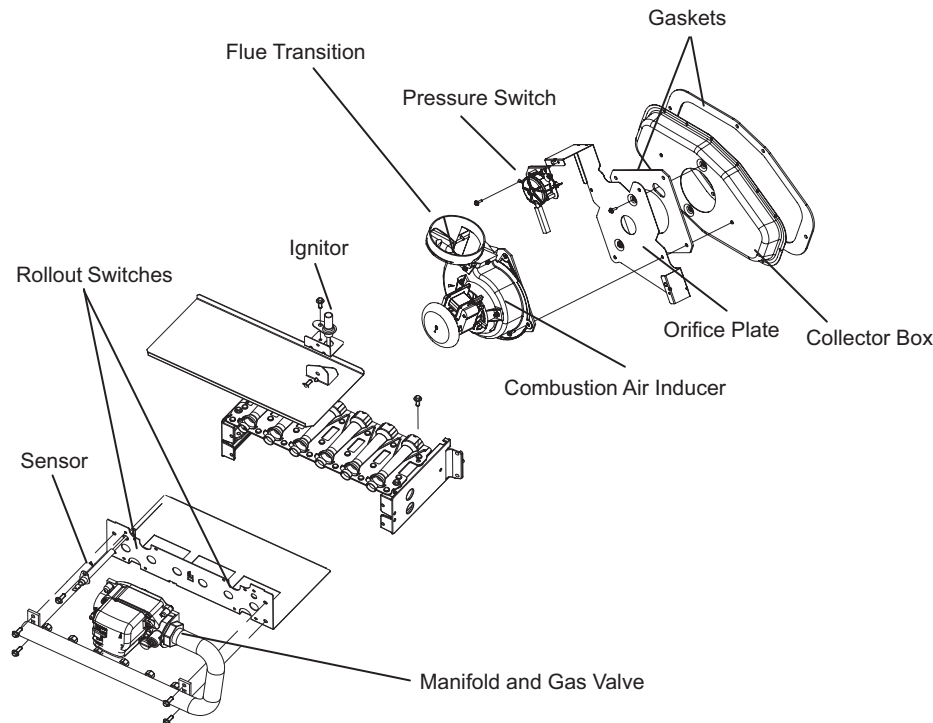

Figure 7. Heating Components
1. Flame Rollout Switches (Figure 7)
3. Flame Sensor (Figure 7)
4. Gas Valve (Figures 7 and 20)
6. Ignitor (Figure 7)